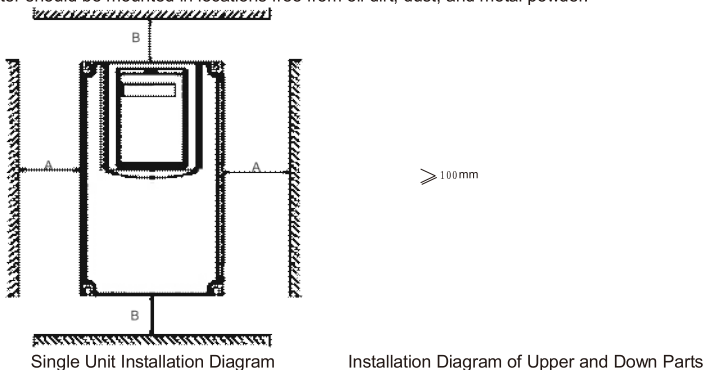

Figure 3-1 Installation Diagram
- 1) Install the inverter vertically so that the heat may be expelled from the top. However, the equipment cannot be installed upside down. If there are multiple inverters, parallel installation is a better choice. In applications where the upper and lower inverters need to be installed, please refer to Figure 3-1 "SCK280 Series Inverter Installation Diagram" and install an insulating splitter.
- 2) The mounting space should be as indicated as Figure 3-1, so as to ensure the heat dissipation space of the inverter. However, the heat dissipation of other devices in the cabinet should also be taken into account.